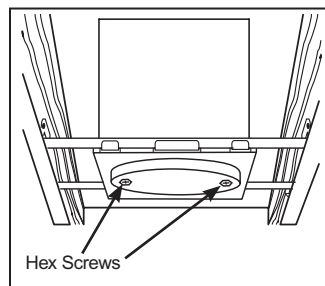
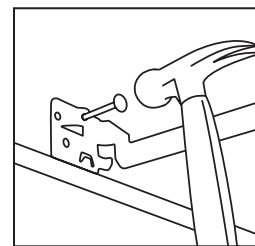

Figure 2
Figure 3
**Step 1.** Extend bar hangers to fit between joists. Bar hanger foot is contoured to easily align with bottom of joist (Fig. 2). Position fixture by hammering Real-Nails® into joists (Fig. 3).
**Step 4.** When installing in drywall, cut appropriate sized hole using the provided oval hole template. After installing drywall, if necessary, adjust fixture for ceiling thickness by loosening hex screws that attach the round skirt to the plaster frame (Fig. 2).